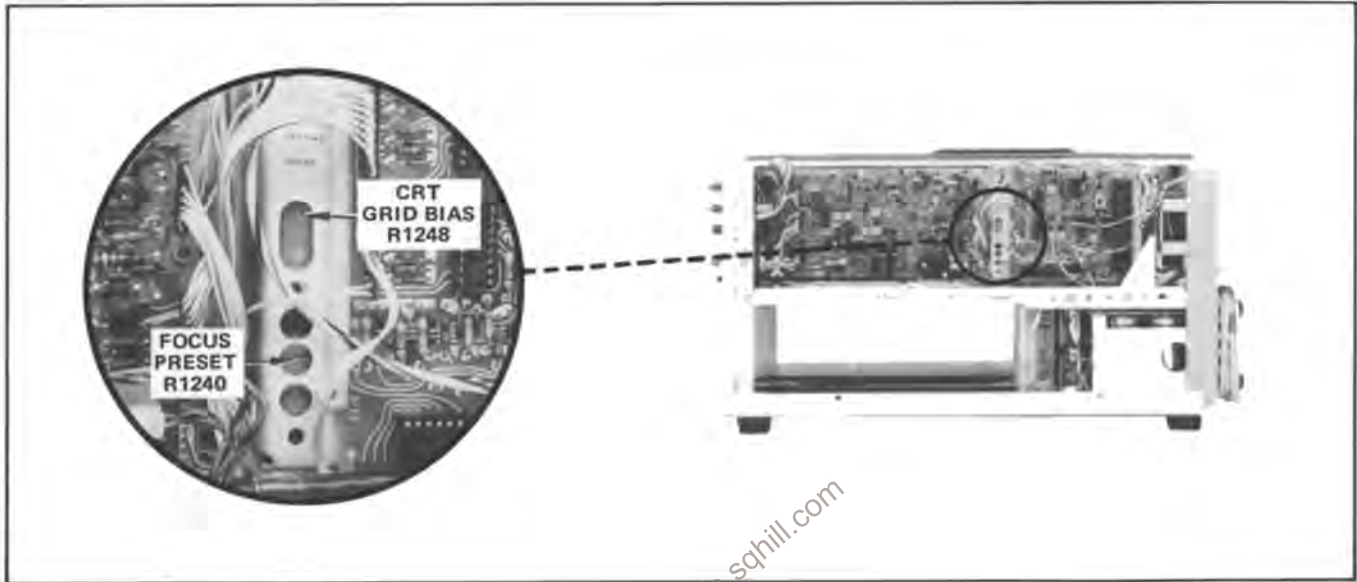

Figure 5-4. Location of adjustments in High-Voltage cover.
f. ADJUST—CRT Grid Bias adjustment R1248 (see Figure 5-4) until the trace on the 7623A just disappears.
- f. ADJUST—Focus Preset R1242 (see Figure 5-4) and Astigmatism adjustment R1274 (see Figure 8-18) for the best overall focus.